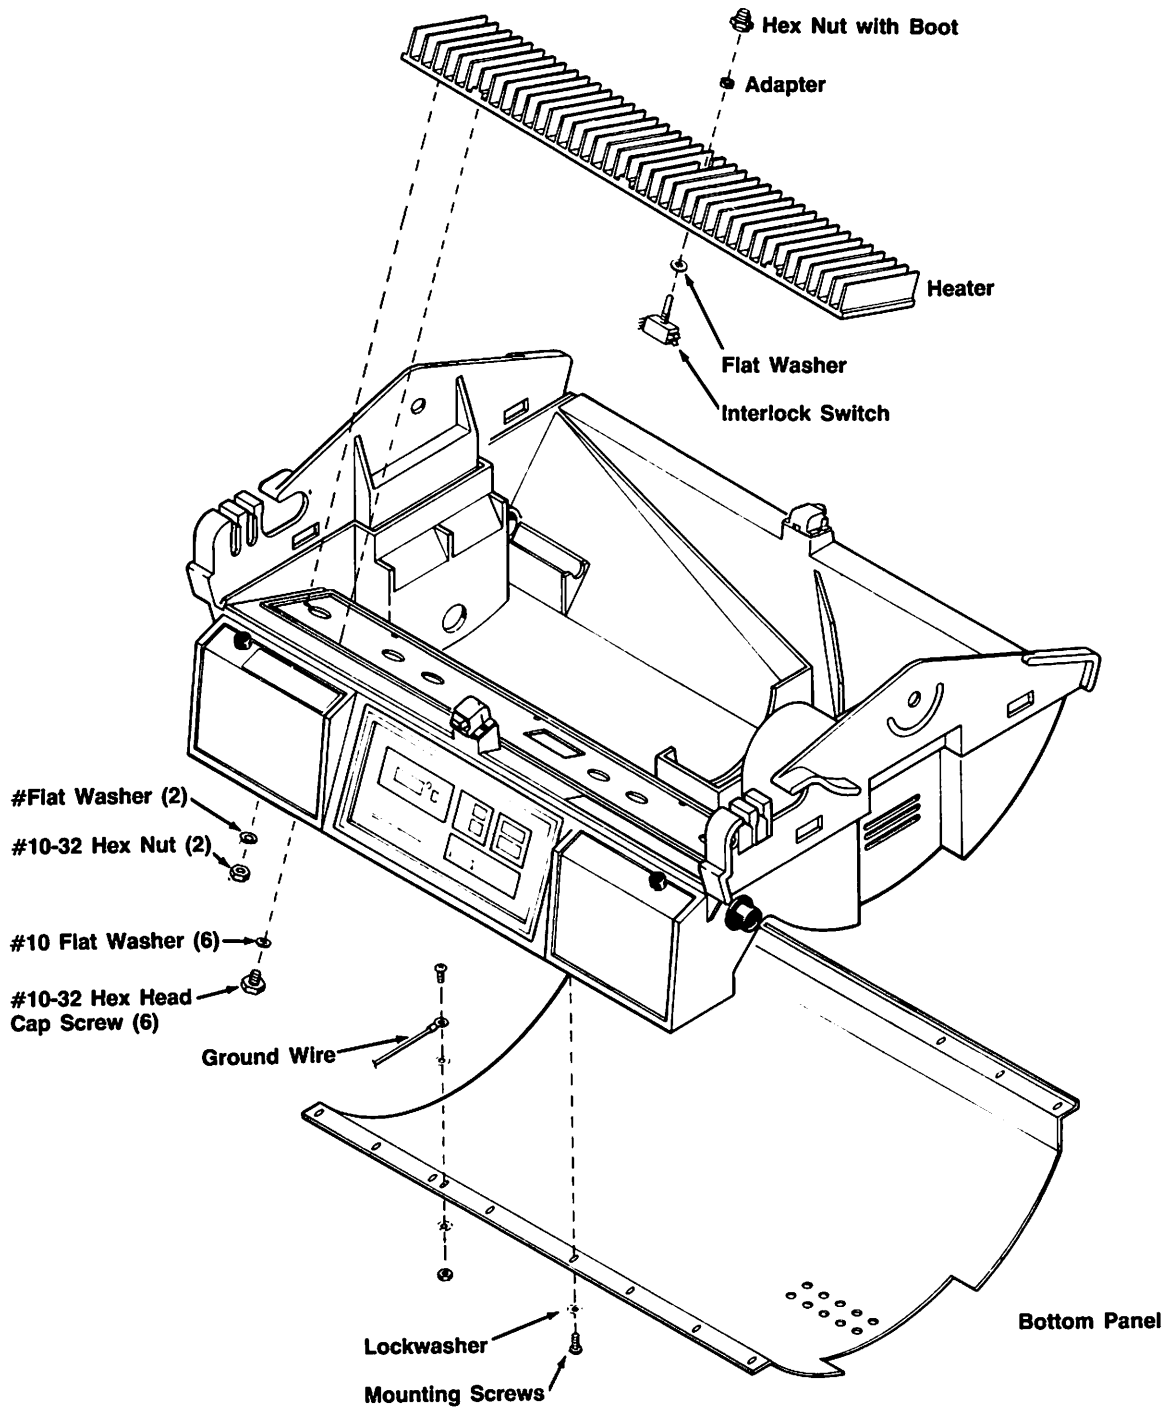

Figure 9-6
(Figures 9-6 and 9-7)
E. Interlock Switch Replacement (Figures 9-6 and 9-7)
4. Remove the 5/8" nut from the top of the interlock switch which mounts it to the heater block. Be sure to retain the adapter located between the switch and the heater (Figure 9-6).